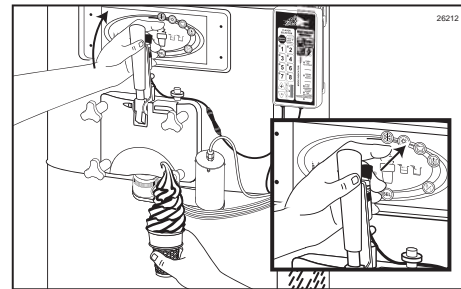

Figure 178
3. Release the Spigot Switch lever as you lift the draw-handle when the desired amount of product is drawn. (See Figure 178.)